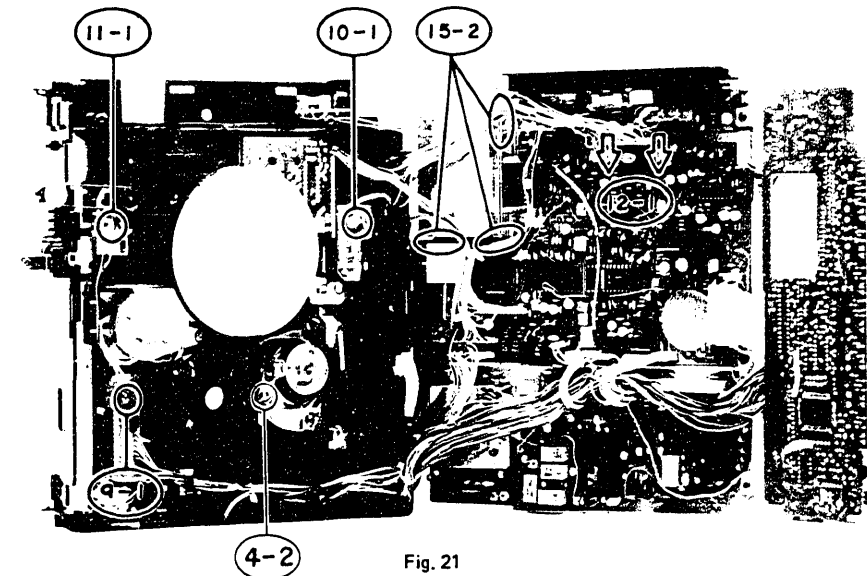

Fig. 21
4. Tach head (Fig. 21)
3 PC Boards mentioned above are fixed with 1 screw. (Fig. 21)
12. Sound-on-sound PC Board (Fig. 21)
15. Switching regulator (Fig. 21)